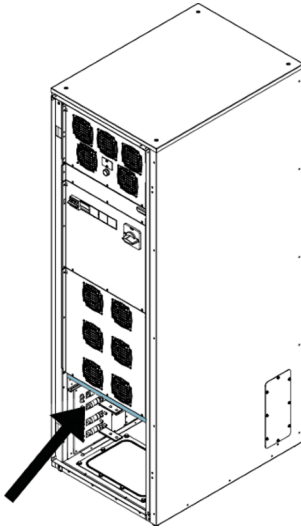
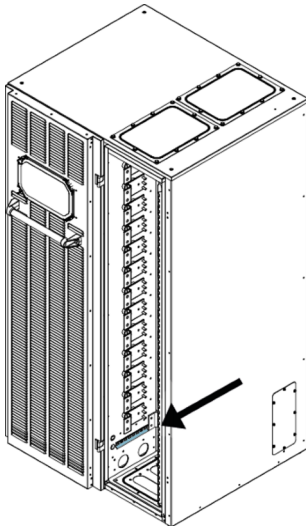

Figure 27. Signal cable terminals, 9PHD smaller cabinet frame
Figure 28. Signal cable terminals, 9PHD larger cabinet frame
2. Terminal block X13 for external parallel control signals is accessible on the signal interface area, above or next to the power wiring terminals (see Figure 27 and Figure 28).
For information on the location and connections of signal cable terminals, see Figure 27, Figure 28 and Table 21.